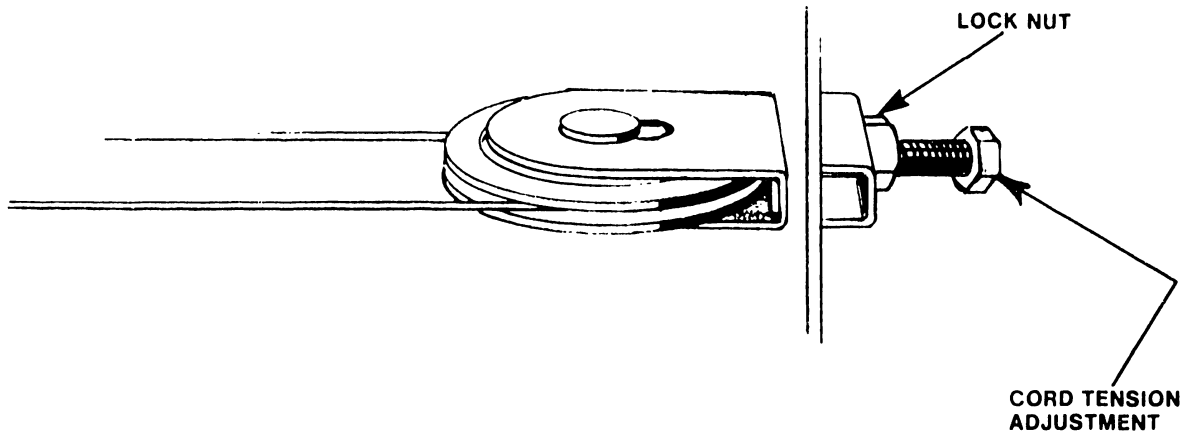

FIGURE 5-16 CORD TENSION ADJUSTMENT
2. Loosen lock nut on the right side of the printer frame (Figure 5-16).
3. Adjust tension of cord by turning the tension screw on the right side of the printer (see Figure 5-16).